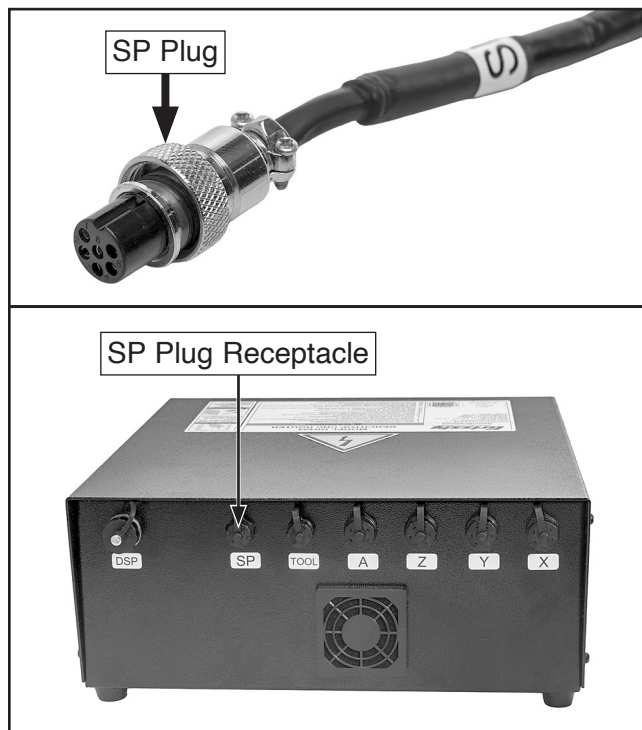

Figure 7. Location of kit electrical connections.
8. Place VFD near Model G0403 control box and connect SP plug from VFD to matching receptacle on rear of control box, as shown in **Figure 7**.